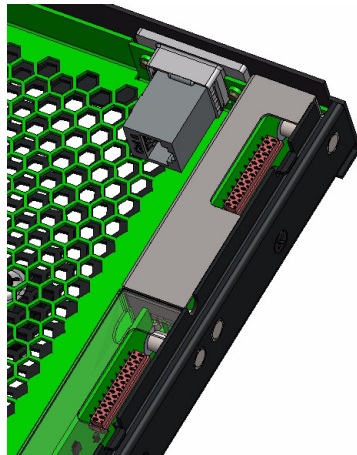

Figure 1-2 Front Bezel Grille Control Panel Sockets and S9D Network Interface
1. Orient the front bezel grille so that the left inner edge containing the sockets (Figure 1-2) lines up with the front left edge of the chassis where the cables protrude.